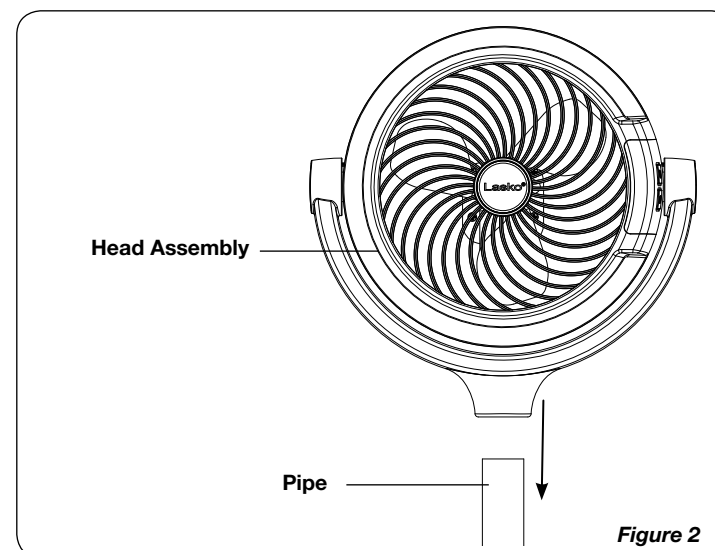

Figure 2
- Place Head Assembly onto end of Pipe by twisting Head Assembly downward until seated on Pipe. (Figure 2)